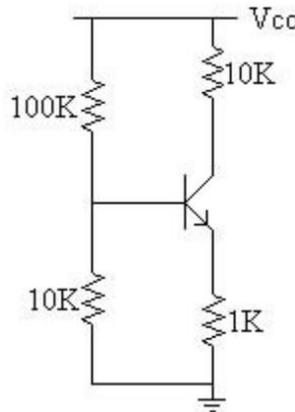

Figure 1
- Set up the circuit on your breadboard as shown Figure 1 below, with $V_{CC} = 15V$
- To the circuit you already built in Figure 1, add capacitors to the input and output as shown in Figure 2.